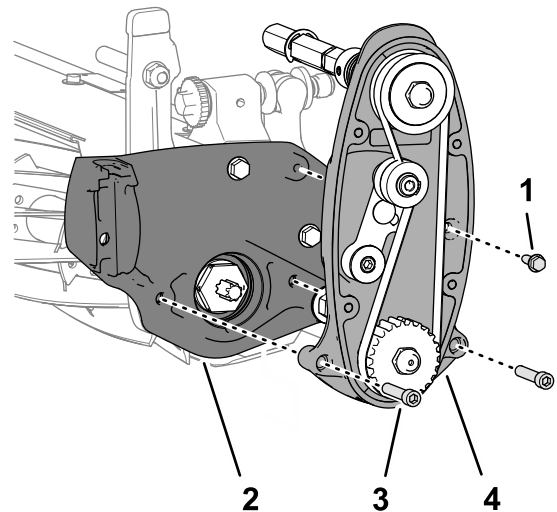

Figure 7
2. Remove the flange-head screw (1/4 x 3/4 inch) that secures the reel-drive assembly to the side plate of the cutting unit (Figure 7).
3. Remove the 2 socket-head screws (5/16 x 1-1/2 inches) from the 2 locknuts (held captive in the side plate) that secure the reel-drive assembly to the side plate of the cutting unit, and remove the reel drive (Figure 7).